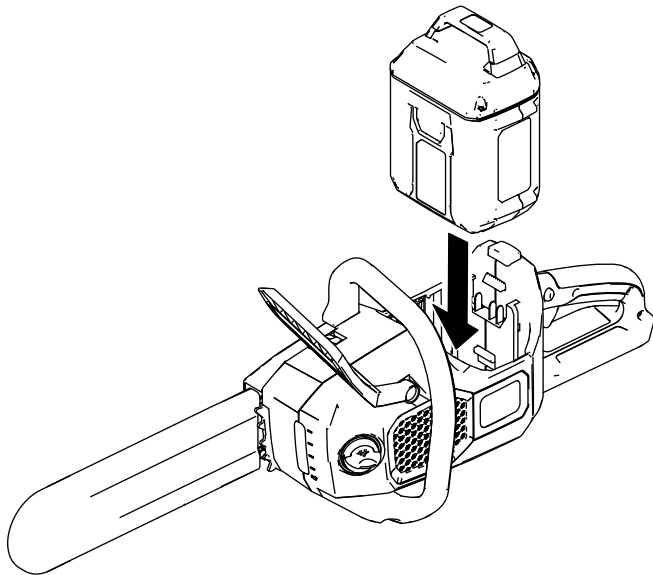

Figure 7
3. Align the tongue of the battery pack with the battery cavity in the chain saw (Figure 7).